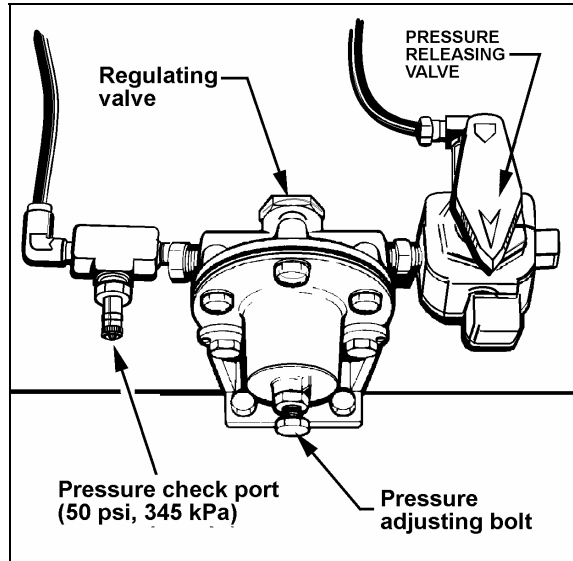

FIGURE 1: REGULATING VALVE
2. Release pressure from air bellows by means of belt tensioning pressure releasing valve. This valve is mounted in engine compartment; near the auxiliary oil tank on H3 series vehicles and above the engine doors on XL series vehicles (refer to fig. 1).